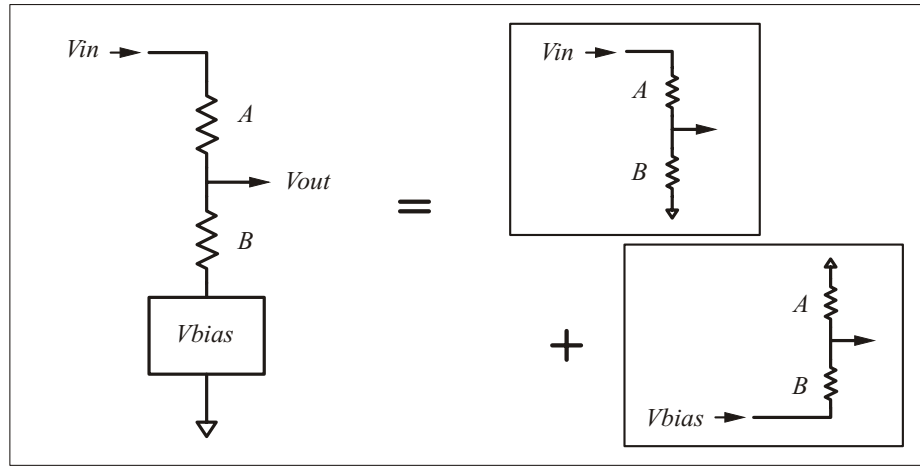

Figure 3: Biased two resistor divider
While the simple scaling divider is fine for applications requiring only scaling, it does not add any bias. Negative voltages going into the divider come out negative, while you may require such voltages to be biased into the positive range. This can be done by modifying the basic divider as shown in Figure 3. The circuit is the same as the simple scaling divider *except* the end of resistor *B* is held at a nonzero voltage and *not* at ground.
The output of the biased divider in Figure 3 is:
With practice, equations like (6) can be written down at sight. Here is how: from Kirchoff's and Ohm's laws we know V_{out} must be a *linear homogeneous* function of V_{in} and V_{bias} . Because of that we can solve for V_{out} with V_{in} and V_{bias} alternately set to zero and then add the partial results together to form the complete answer. The partial results for V_{in} and V_{bias} are easy to write down because they are each the same as the simple scaling resistor divider without bias. This decomposition is indicated with the subdiagrams in Figure 3.
where $r = B/A$, and (V_{in}, V_{out}) is any pair of input/output values. As usual, while any resistors with the ratio r will work, use values large enough to keep the divider currents small. Also note the value of V_{bias} is fixed by the design process. With these equations in hand, the design steps for a biased two resistor divider in Figure 3 are: